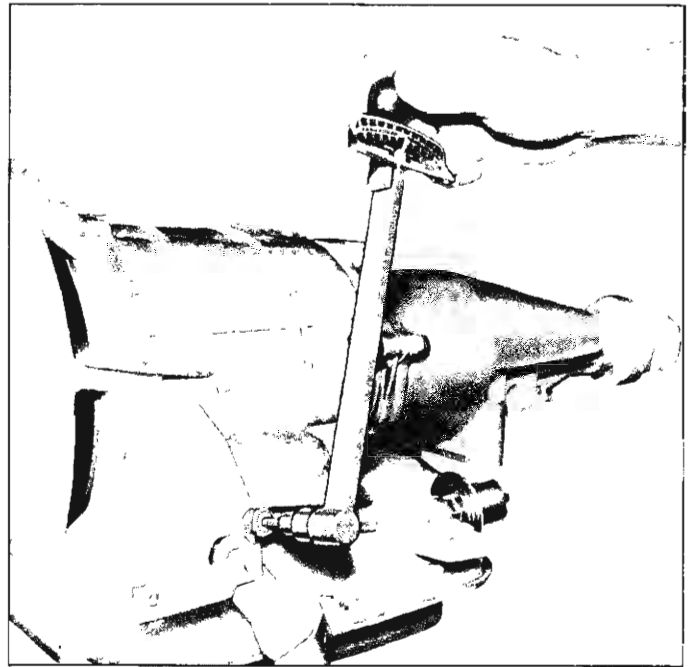

Fig. 41—Low Band Adjustment
Tighten the low servo adjusting screw to 40 inch lbs. using torque wrench J-5853 (fig. 41). The input and output shaft must be rotated simultaneously to properly center the low band on the clutch drum. Then back off four (4) complete turns, and tighten the lock nut.